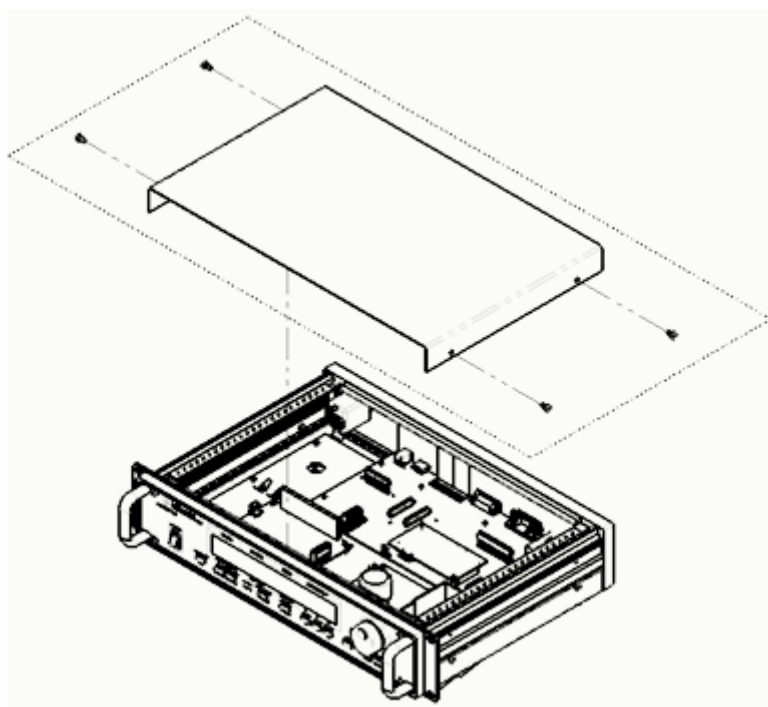

Figure 8-1 DSP7000 Top Cover
1. Turn off the device. Remove the two Philips pan head screws at each side of the cover of DSP7000 as shown in *Figure 8-1 DSP7000 Top Cover*, and then remove the cover.